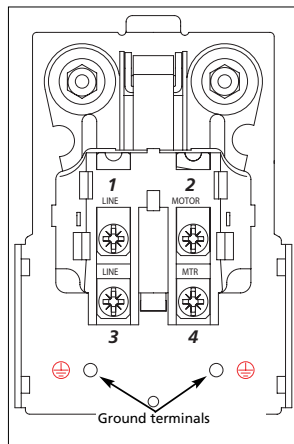

Figure 4
- Position black motor wire underneath screw head #4 (See Fig. 4), then tighten screw to secure wire. Position black line wire underneath screw head #3, then tighten screw to secure wire.
- Position white line wire underneath screw head #1, then tighten screw to secure wire. Position white motor wire underneath screw head #2, then tighten screw to secure wire (See Fig. 4).
- Attach green ground wire from line cord to inside of pressure switch with ground screw provided in kit. Repeat procedure with green ground wire from motor cord. (See Fig.4)